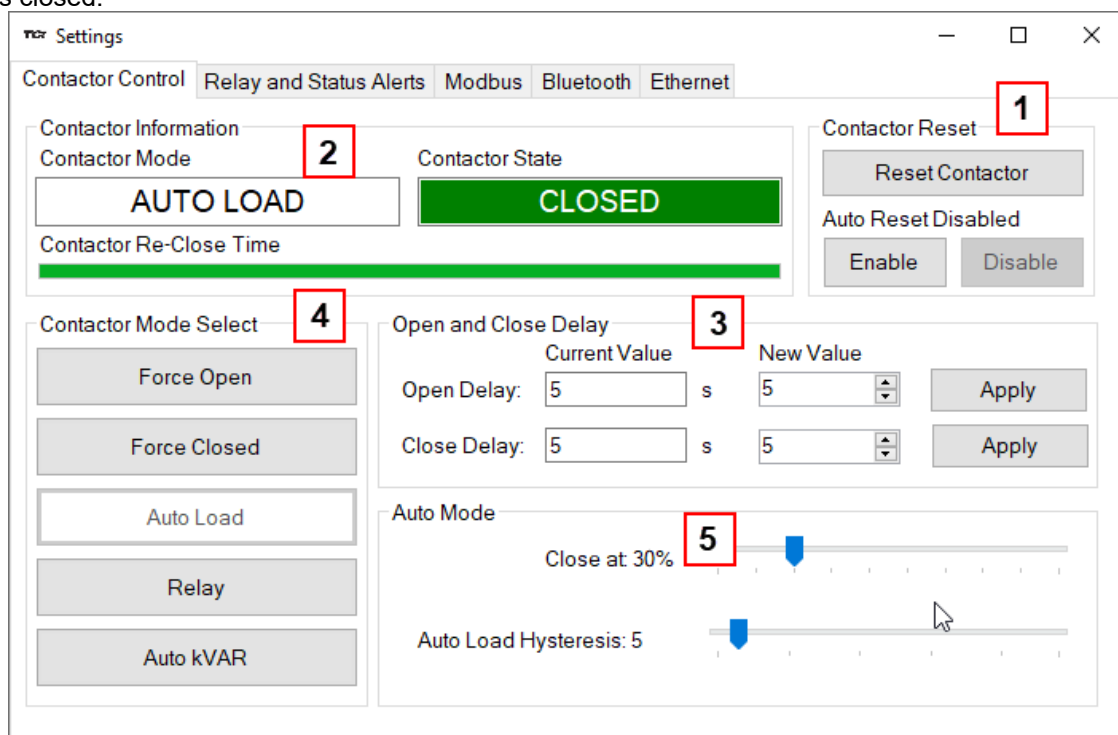
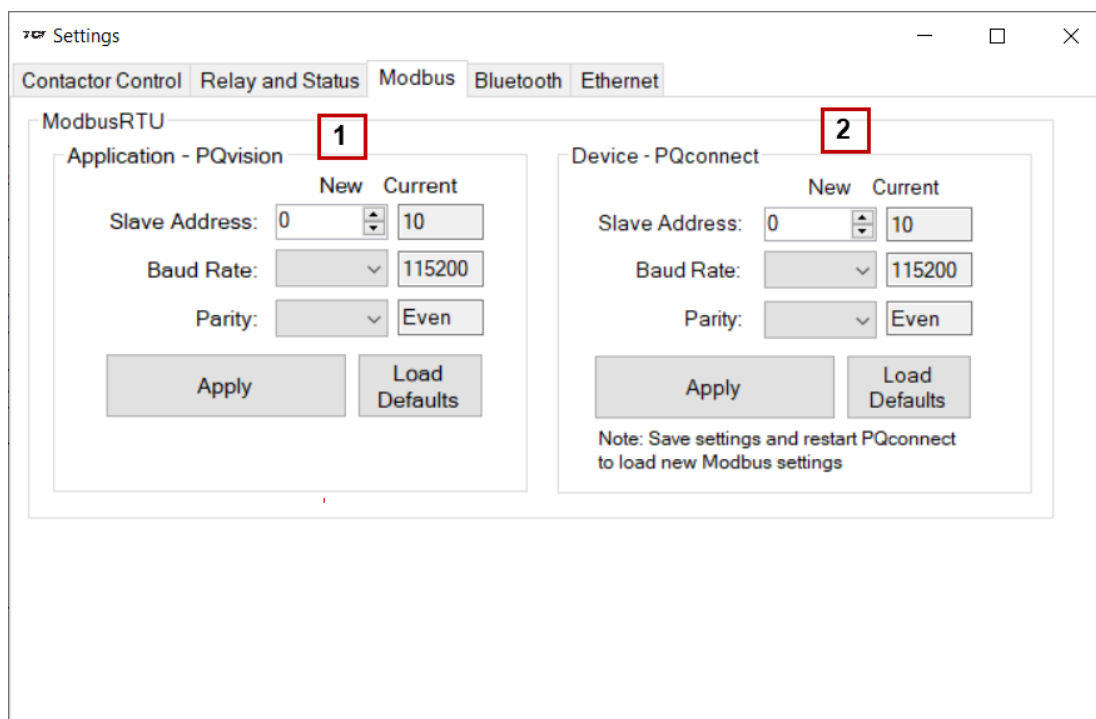

Figure 8: Contactor Control Settings Menu
Figure 10: Modbus Settings Menu
Settings – Modbus, contactor control, kVAR settings, alert management view Figure 8-Figure 10
- See Figure 10: Modbus Settings Menu for changing the default settings.